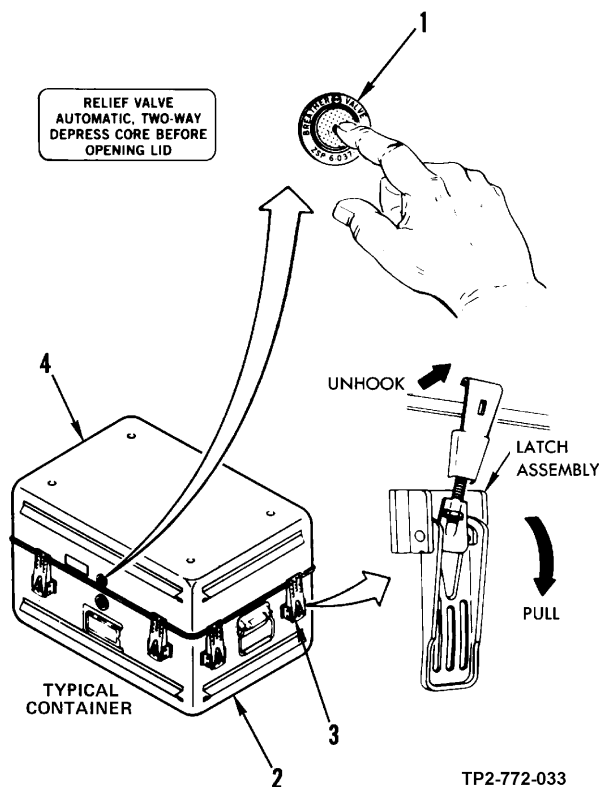

Figure 3-27. Shipping and Storage Container Lid Removal
(1) Open shipping and storage container as follows:
(a) Press pressure relief valve (1, figure 3-27) on container (2).